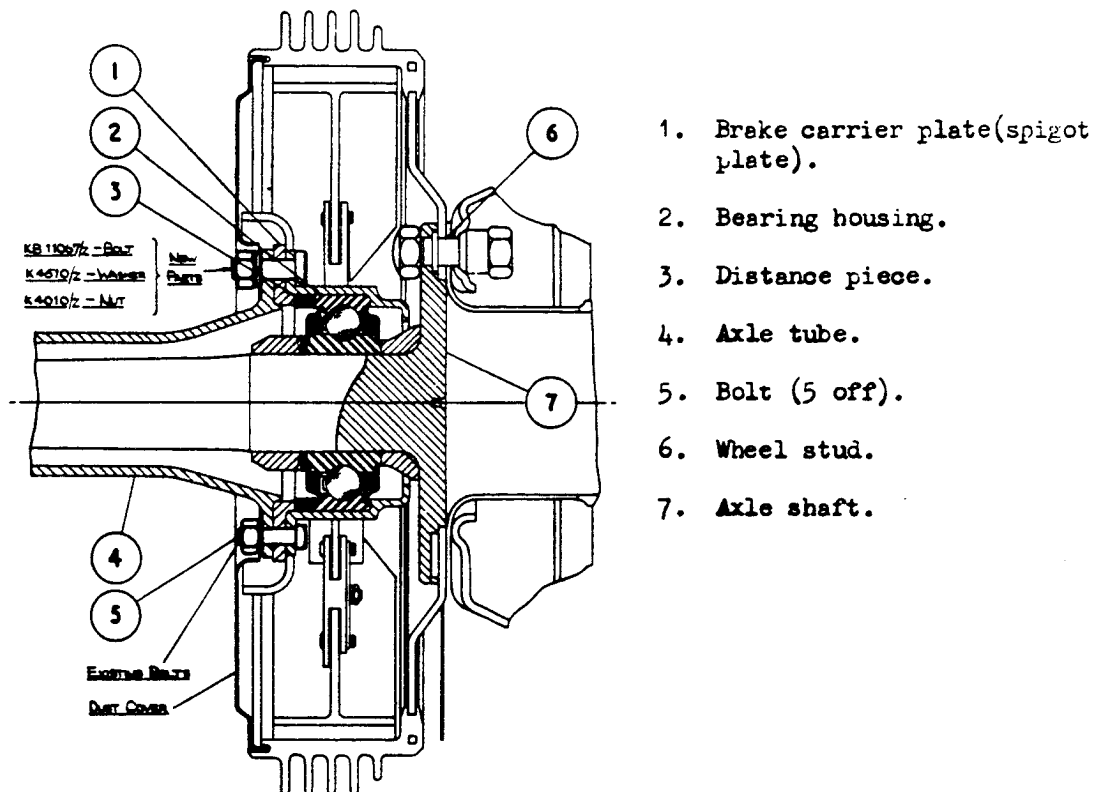

FIG. 1.
It has been decided to fit 3/8" diameter bolts as shown on Fig.1, in place of the existing 5/16" diameter bolts (5) which retain the rear axle shaft bearing housing (2) and the brake carrier plate (1) to the axle tube. It has also been decided that opportunity should be taken to reverse the equal wear brake linkage of the rear brakes and fit the stiffened linkage which consists of a new push rod and jaw.
- (1) Chock the front wheels of the car and release the hand brake and raise both rear wheels clear of the ground by jacking under the Centre casing of the rear axle. Place a block of wood or trestle under the centre of each of the rear springs, care being taken not to damage the spring gaiters.
- (iii) Unscrew the five 5/16" B.S.F. nuts from the bolts (5 Fig.1) lying inside the recess in the dust cover at the rear of the brake carrier plate and gently draw out all the bolts which retain the axle shaft bearing housing (2) and the brake carrier plate (1) to the axle tube (4).